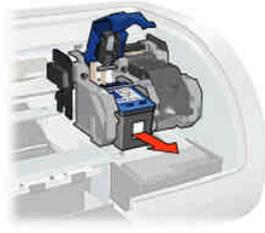

Figure 2
- d. Slide the print cartridge out of the cradle (Fig. 2).